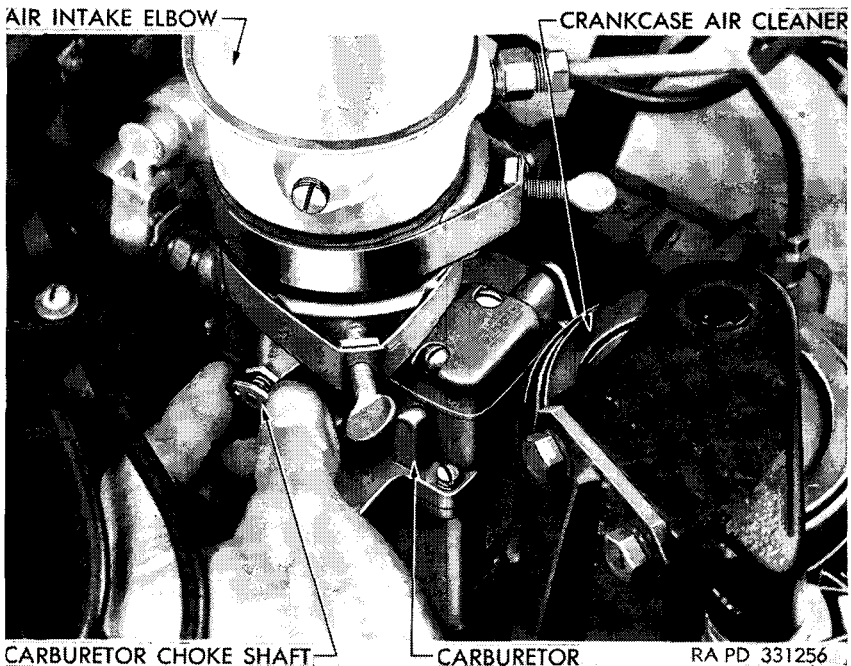
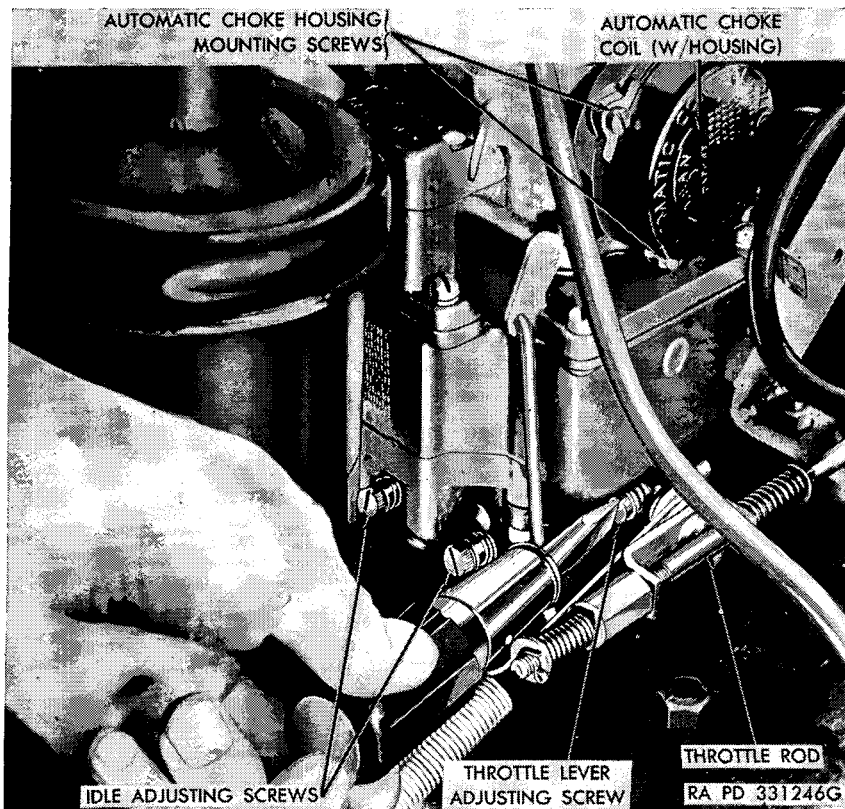

Figure 68. Testing carburetor choke shaft.
Figure 69. Adjusting carburetor.
a. **CARBURETOR ADJUSTMENTS.** Test choke shaft with fingers to see that choke operates freely (fig. 68). Run engines until thoroughly warm (160° to 210° F.) and adjust throttle stop screws (fig. 69) so engine speed is from 450–475 rpm, with the transmission selector lever in “DRIVE” position and parking brakes set. Tighten two idle adjusting screws (fig. 69) as far as possible without forcing, then loosen screws one and one-quarter turns. Engine should run smoothly without loping or stalling. Adjust screws if necessary. Check to see that choke setting mark on automatic choke housing is opposite mark on carburetor flange. If necessary, loosen three choke housing mounting screws and rotate housing until marks line up (fig. 69). Tighten screws.
- (1) Disconnect front throttle rod and lock throttle in zero position by inserting a 1/4-inch drill rod pin through holes in front relay lever and front relay shaft support (fig. 71). Loosen clevis lock nut for front throttle rod and turn clevis until holes in clevis and front throttle relay shaft line up. Install clevis pin and tighten lock nut. Adjust throttle rods between front and rear intermediate throttle relay levers in the same manner. Adjust rod between rear intermediate relay lever and rear relay lever in the same manner. Connect vertical throttle rod from rear lower throttle relay to rear throttle cross shaft and lock rear throttle cross shaft in zero throttle position by inserting a pin, through relay lever and bracket on right-hand engine. Adjust clevis at upper end of rod until clevis holes line up with hole in lever and then insert clevis pins. Set idle adjusting screws (fig. 69) so that engine speed is from 450–475 rpm as noted on the tachometers when the transmission selector lever is in “DRIVE” position, transfer unit shift control lever is in “HIGH” or “LOW” position, and parking brakes are set. Disconnect each